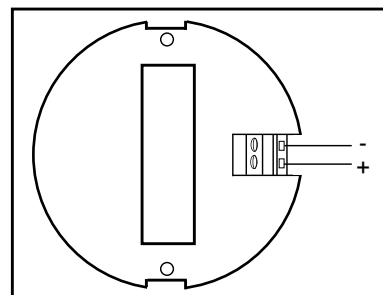

Figure 3-1: Wiring Diagram
- Connect the lead that returns back to the - output of the power supply, either directly or through a two wire transmitter, to the - terminal of the X54-201. Connect the other wire to the + terminal. See Figure 3-1.